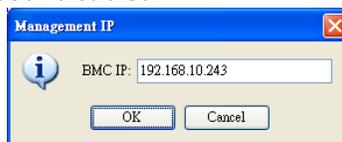

Figure 2-12 Updating the BMC IP Address
- **BMC:** Shows BMC status. If a BMC is installed, the BMC IP address will appear here. Use the Update button (🔄 Update) to update the BMC IP address (Figure 2-12). Click the **Refresh** button (🔄) to reload the BMC IP address. If a BMC is not installed, the message “not installed” appears, and the Update and Refresh buttons are both disabled.